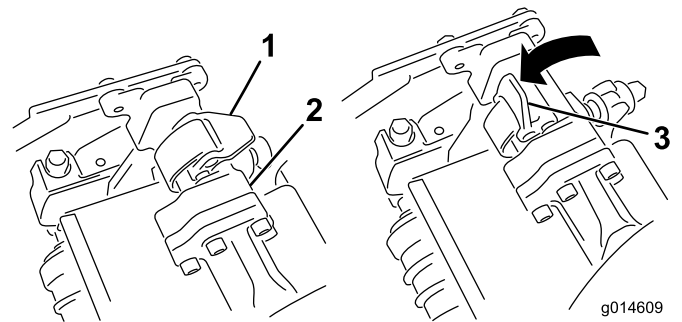
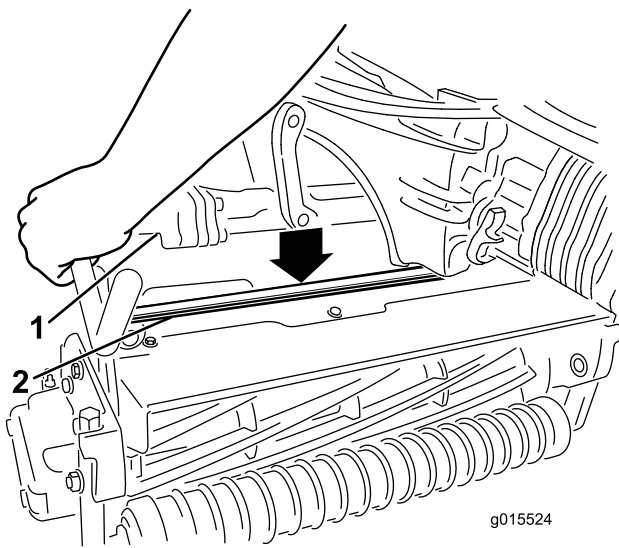

Figure 32
Figure 33
4. With the latches on the suspension-arm bar pointing up (i.e., open) (Figure 32), push the suspension arm down so that the bar fits over the bar across the top of the cutting unit (Figure 33).
5. Close the latches down and around the cutting-unit bar and lock them in place (Figure 32).
5. Open the latches on the suspension-arm bar of the cutting unit you are removing (Figure 32).